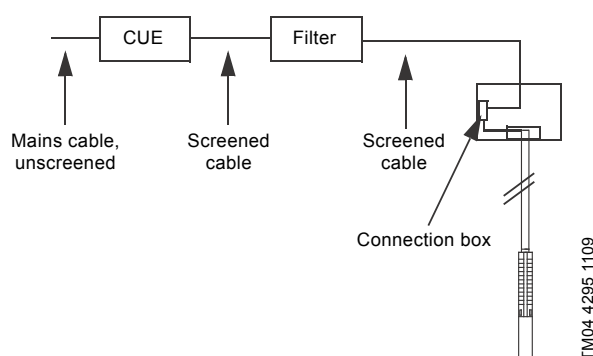

Fig. 17 Example of installation in EMC-sensitive sites
- installation in EMC-sensitive sites. See fig. 17.